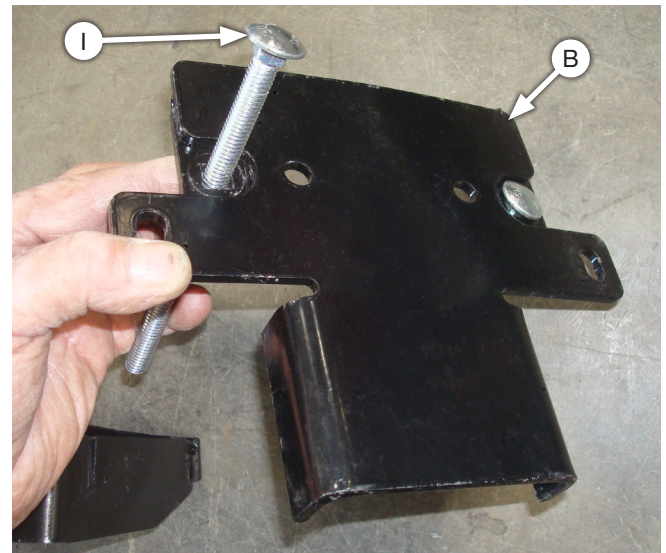

Fig. 8
3. Flip both assemblies' upside down and insert the 3/8" carriage bolts (I) into the lower brackets (B) making sure that they nest down into the pockets (Fig. 8).